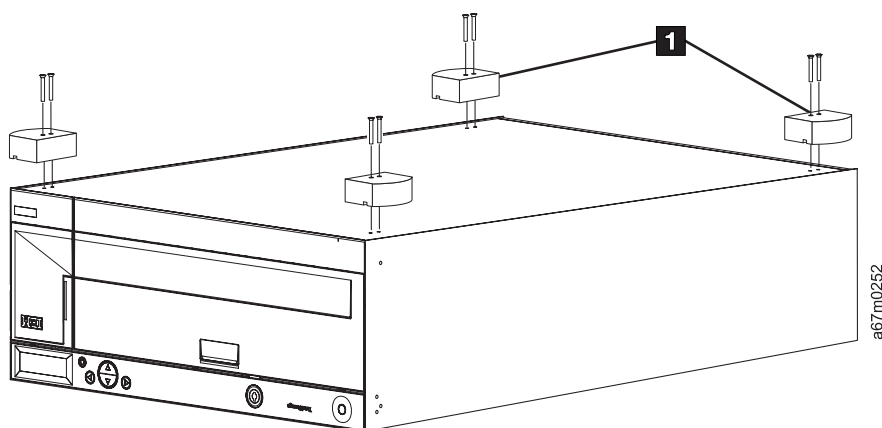

Figure 99. Attachment of Feet
- 9. Using a #1 Phillips screwdriver and two long screws, attach a foot (see **1** in Figure 99) to each corner of the base unit. Be sure the edge of the base unit fits into the notches in the feet.